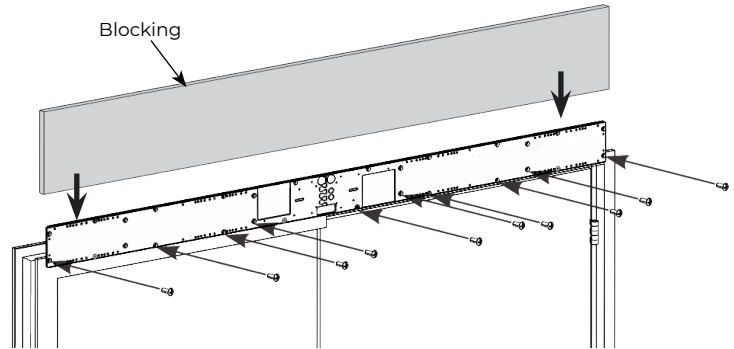

Figure 7
- Secure backplates to frame using eleven (11): 1/4-20 x 5/8" machine screws or 1/4 x 1-1/2" self-drilling screws from screw packs in Boxes 1 and 2 (Figure 7).
**NOTE:** It is important to properly secure top edge of backplate. Use of blocking (supplied by others) or shims (provided) to fill gap between backplate and wall above header is **HIGHLY** recommended. Material must comply with local codes. Failure to properly secure top of backplate could result in operator being allowed to 'rock' during operation. This could result in damage to operator and diminish operator function. (Figure 7)